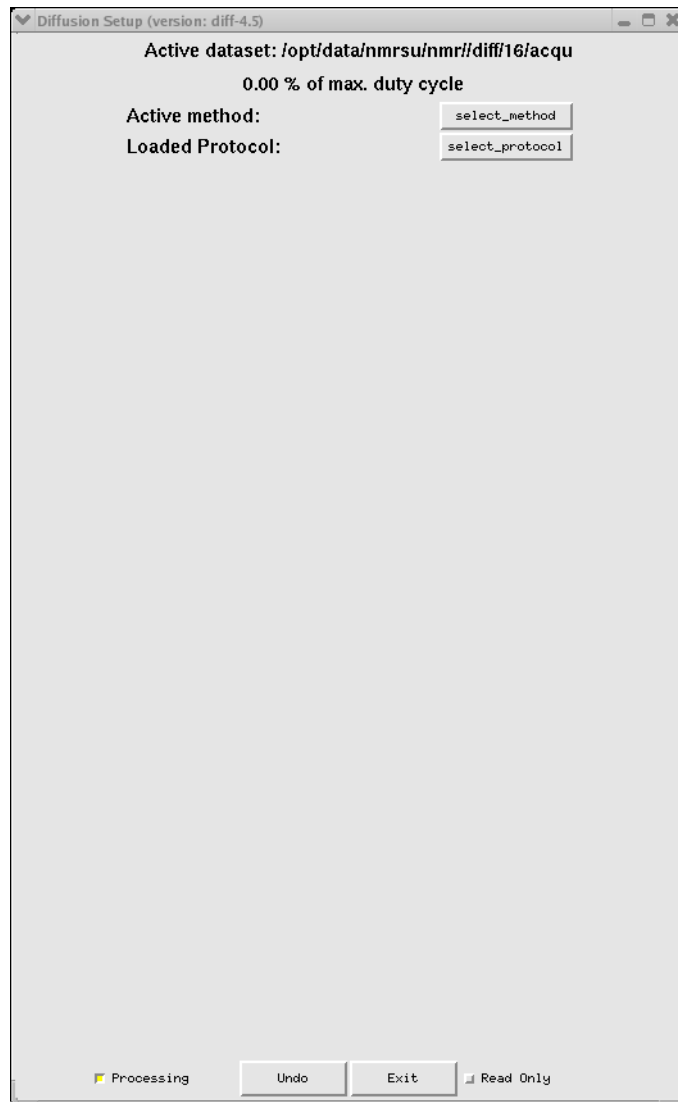

Figure 3.2 The **diff** cOmmand Started within a Fresh Data-set
1. Type “**diff**” to start the setup program. A window as shown in Figure 3.2 will appear. Because it was started on a “fresh” data-set, not much information is visible.